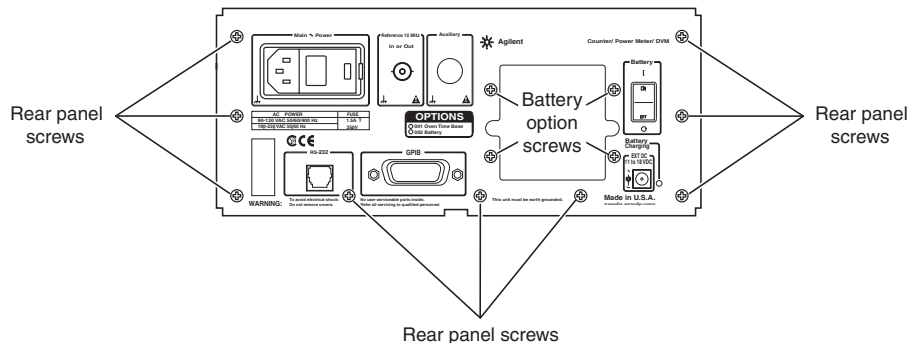

Figure 3-6. Rear Panel Assembly Screws
- 4 If the Battery Option is installed, remove the four 4-40 x 3/16-inch self-locking flathead machine screws that attach the rear panel assembly to the Battery Option chassis as shown in Figure 3-6 (two screws on each side of the opening).
- 5 Remove the nine 4-40 x 3/16-inch self-locking flathead machine screws that attach the rear panel assembly to the chassis (see Figure 3-6).